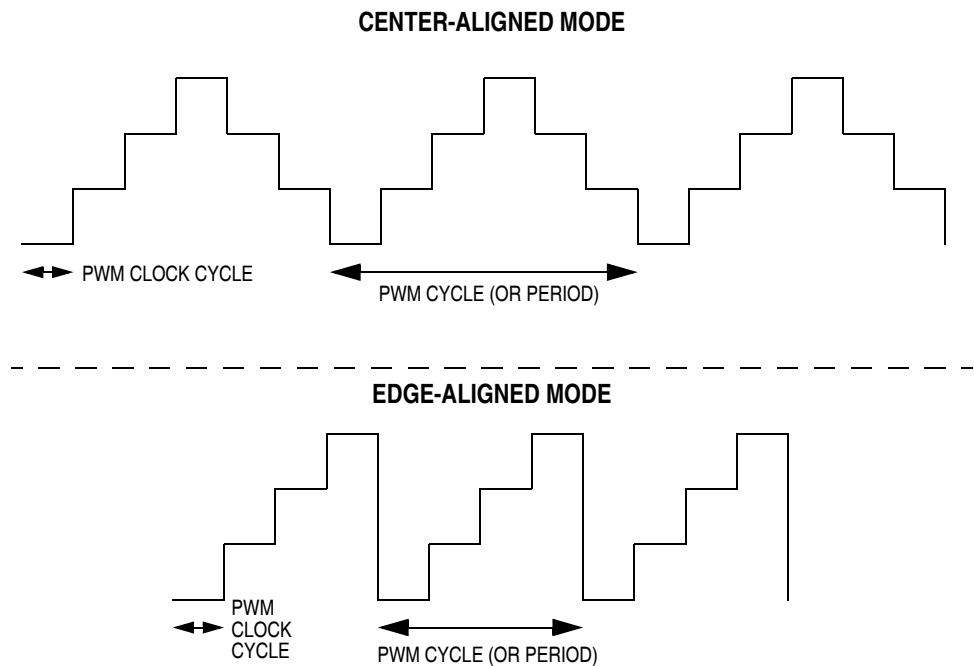

Figure 9-46. PWM Clock Cycle and PWM Cycle Definitions
PWM clock cycle (or period) — One tick of the PWM counter ($1/f_{op}$ with no prescaler). See Figure 9-46.
- Center-aligned mode: The time it takes the PWM counter to count up and count down (modulus * $2/f_{op}$ assuming no prescaler). See Figure 9-46.
- Edge-aligned mode: The time it takes the PWM counter to count up (modulus/ f_{op}). See Figure 9-46.